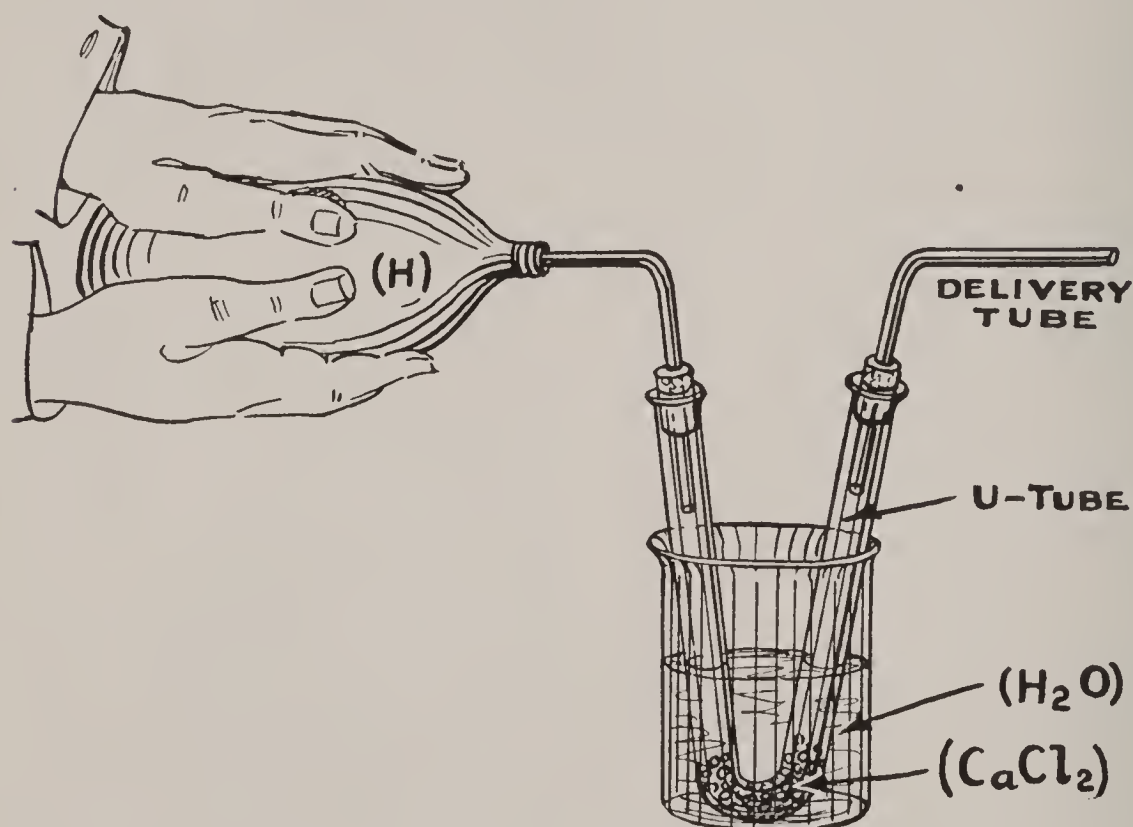

FIG. 93.—How to Dry Hydrogen and Other Gases.
How to Dry Hydrogen. Likewise it is often desirable that the hydrogen (H) after it is purified should be perfectly dry. You can easily extract the moisture from it by first passing it from the wash-bottle connected with the generating apparatus into a bladder, or rubber bag; now connect the latter with one of the ends of a U-tube in which you have placed 1 ounce, or more, of calcium chloride ($CaCl_2$) and the other end with a delivery tube, as shown in Fig. 93. Calcium chloride ($CaCl_2$) is a substance that is very *deliquescent*, that is, it has the power of absorbing large quantities of water (H_2O) and, hence, it extracts whatever moisture there may be in a gas which is either passed through or over it.